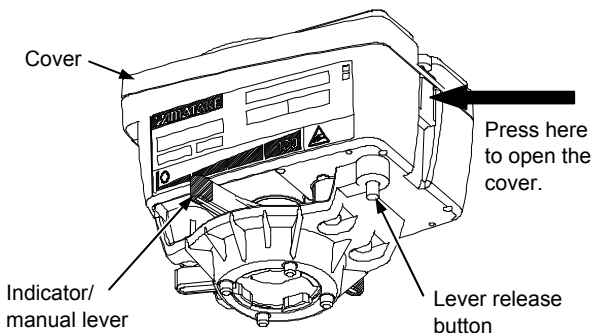

Figure 4. Cover removal
- 1) Open the cover by pressing the area where Fig. 4 shows.